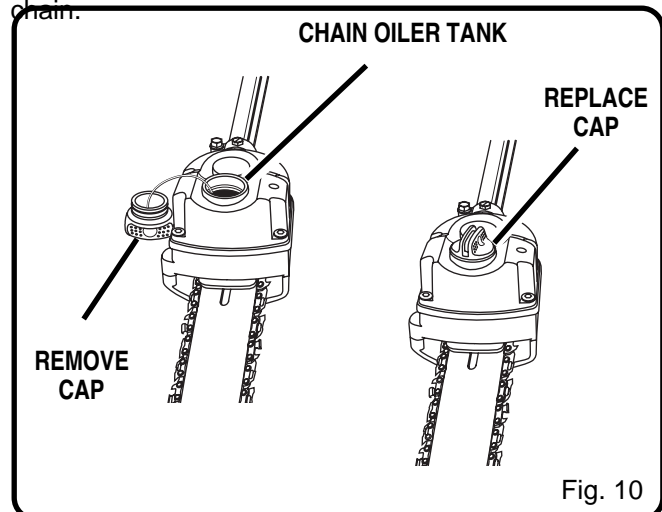

Fig. 10
2. Remove the cap and carefully pour approximately 8 oz. (237 cc) of the bar and chain oil into the chain oiler tank. See Figure 10.